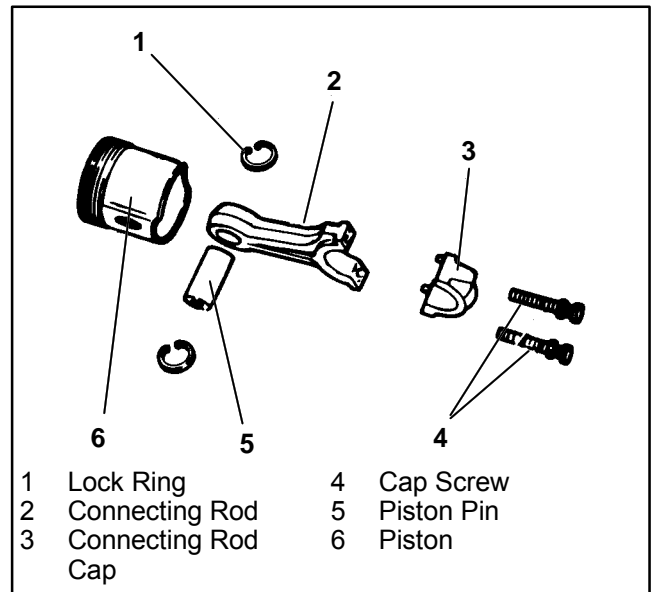

Figure 3-13. Connecting Rod, Piston, and Pin
- Match mark and disassemble pistons, pins, connecting rods, and caps. (See Figure 3-13)